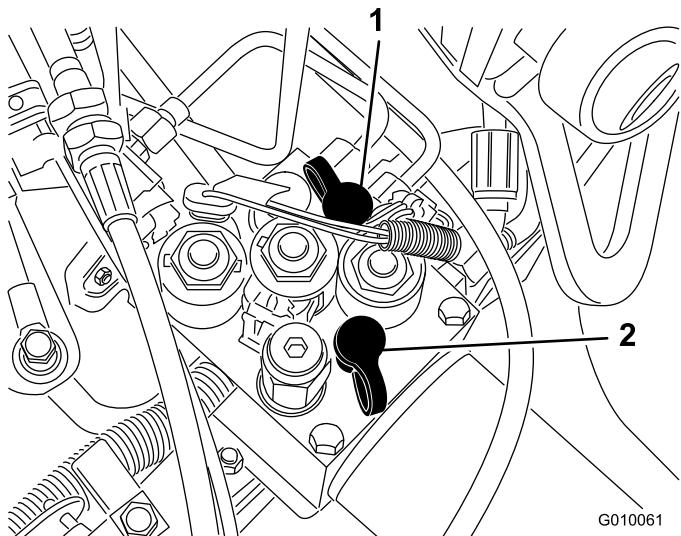

Figure 60
- Test Port G 2 (Figure 60) is used to assist in trouble shooting the traction charge circuit.
- Test Port G 1 (Figure 60) is used to assist in trouble shooting the lift circuit pressure.